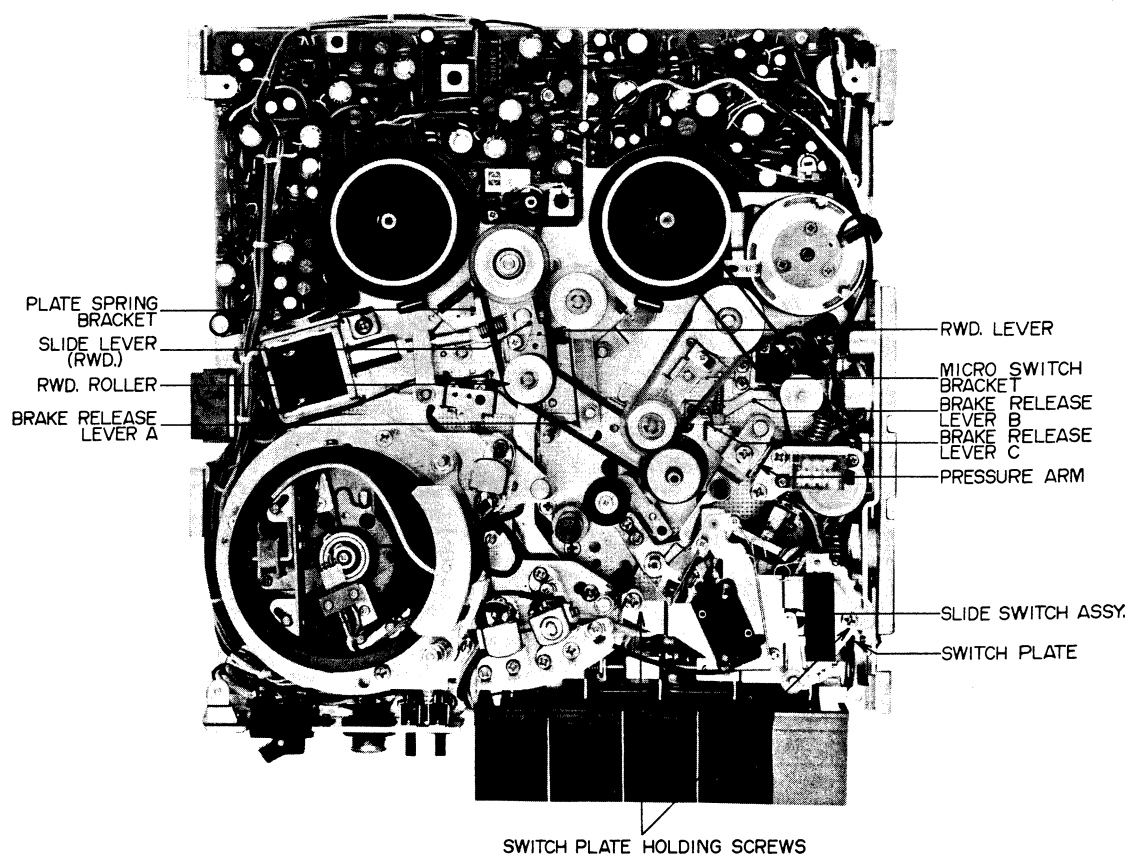
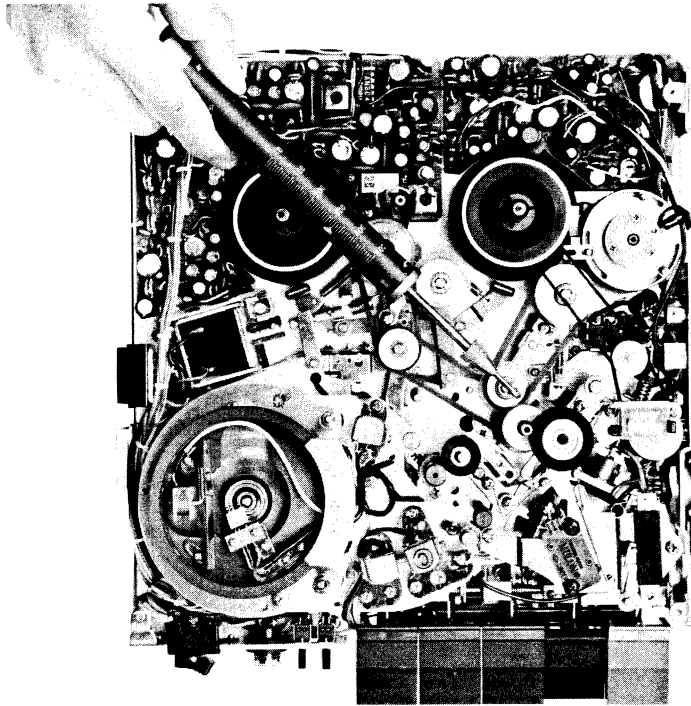

Fig. 1-1
Fig. 1-5
(1) MAIN PINCH ROLLER PRESSURE ADJUSTMENT
- a) Remove the two switch plate holding screws (Refer to Fig. 1-1) and move the slide switch assembly as shown in Fig. 1-2.
(3) DRIVE IDLER AND TAKE-UP PULLEY ADJUSTMENT
- a) At stop mode, confirm that the space between Drive Idler and Capstan Pulley is about 1 mm. (Refer to Part (1), Item (f) above).
- c) As shown in Fig. 1-5, at playback mode, connect a 0 to 500g spring gauge to upper part of the drive idler shaft and measure the pressure when drive idler rotation stops.
(4) BRAKE RELEASE AND MICRO SWITCH ADJUSTMENT
- a) Adjust Brake release lever "C" so that at playback mode, the brake shoe separates from the reel table drum by about 1 mm, and at stop mode, brake lever "B" does not touch lever "A". (Refer to Fig. 1-1)
- c) Adjust the micro switch bracket so that brake tension lever "B" pushes the 2 micro switches perfectly at playback mode, and the 2 micro switches are turned off perfectly at stop mode. (Refer to Fig. 1-1)